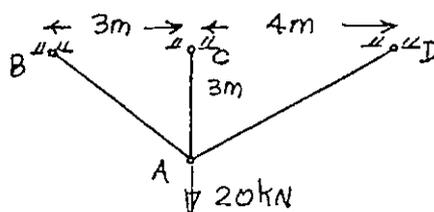

Fig. Q. 12.2
- (ii) Using flexibility matrix method, find the forces in all members of pinjointed frame shown in Fig Q 12.2 ( $AE/L$ ) is constant for all members. (11)